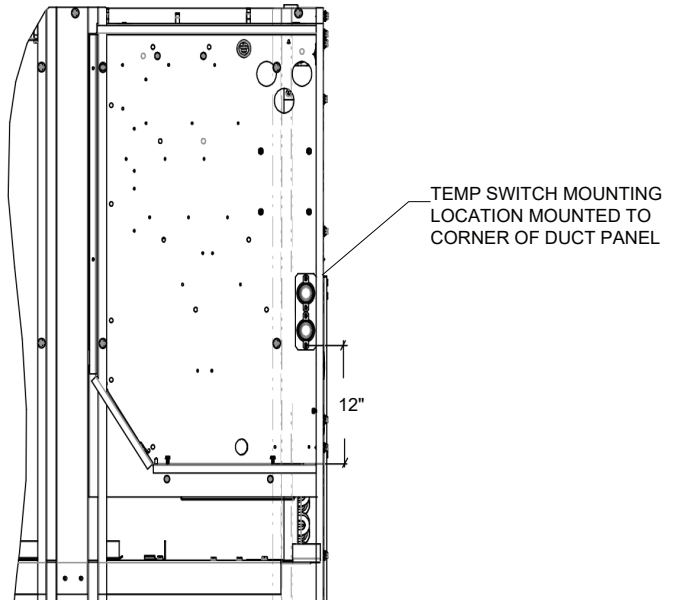

FIGURE 23
4. Pre-drill two holes ( $7/32$ " ) in the corner of the duct panel at the two pre-formed dimples. If there are no dimples, use the T-Stat Mount as a template. The bottom of the T-Stat Mount should be about 12" above the floor of the control box. See Figure 23.